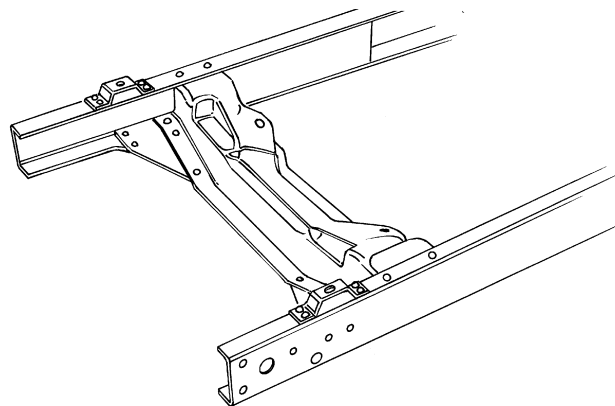

Figure 1
3. Boxing the rails is next. The flange on the left rail should be flattened where the old steering box was mounted and made straight and true. The boxing plates are to stand square on the lower rail flange. The frame rail top edges should be ground straight so the boxing plates fit tight to the rail edges. Do not grind too much off the rails. The boxing plates are then clamped in place, with the front end of the plates against the back of the stock crossmember. Weld in short sections at a time in alternating locations to minimize warpage. It is also a good idea to clamp a bar across the rails to hold them in place during welding. Grind smooth when done. Figure 1.